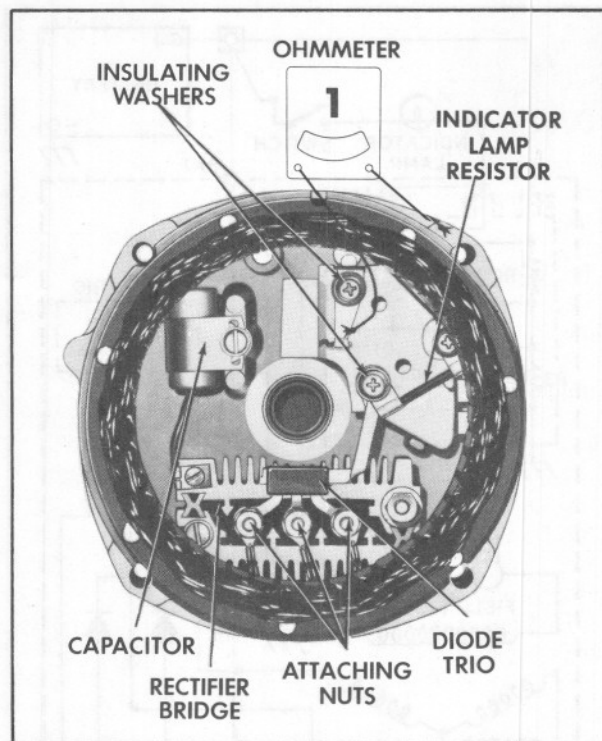

Fig. 6-10 Slip Ring End Frame Assembly
2. Connect ohmmeter using lowest range scale from brush lead clip to end frame as shown in Step 1, Fig. 6-10, then reverse lead connections.